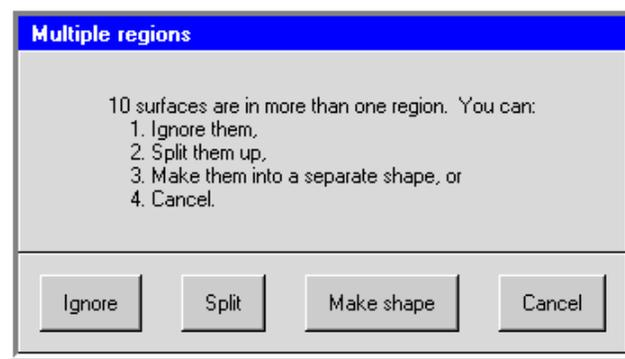

Figure 4.2.9: The Multiple regions Panel
4. When you have divided the CAD geometry into the appropriate regions, click the middle mouse button in the graphics window. Airpak will open the **Multiple regions** panel (Figure 4.2.9), which contains the following options: